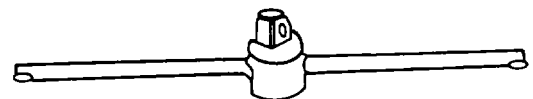

Figure 4-28. Sliding T-Bar Handle
2. *Sliding T-bar handle.* The sliding Tbar handle shown in figure 4-28, has a single head which may be adjusted along a bar handle. It has two spring loaded balls, one for keeping the bar in the head and the other for keeping the socket on the head. The sliding T-bar is used for increased leverage or for working around other objects.